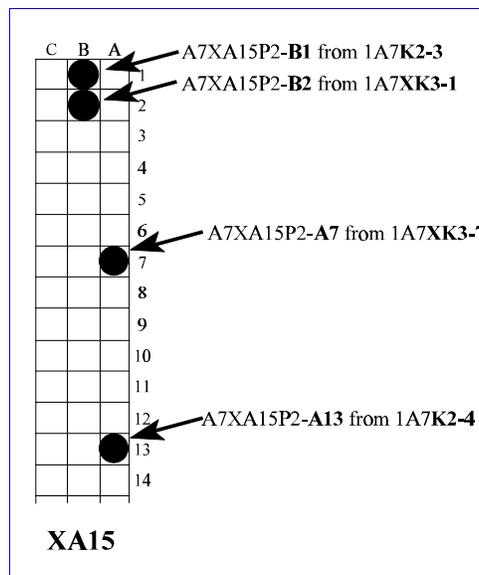

Figure 3 7A2XA15P2
- g. Insert the pins into their respective slots in the P2 connector terminal. Insert each pin with the retaining clip in a down position and be sure to listen for a “click” sound. This will indicate the pin is properly seated. (Refer to figure 3.)